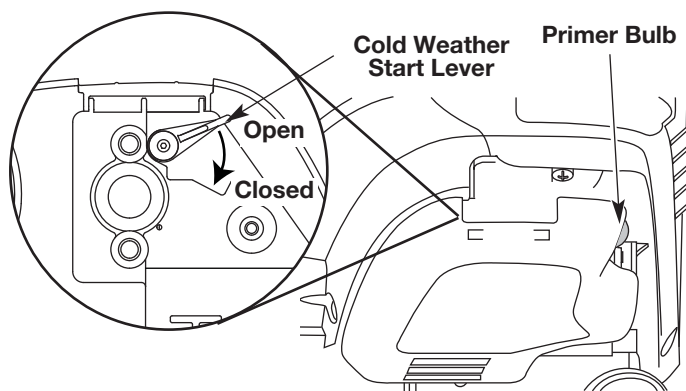

Fig. 7
3. Fully press and release the primer bulb 10 times, slowly. Some amount of **fuel should be visible in the primer bulb** and fuel lines (Fig. 7). If you can't see fuel in the bulb, press and release the bulb as many times as it takes before you can see fuel in it.
IF UNIT IS BELOW 40°F... Push the Cold Weather Start Lever (Fig. 7) down to the start/closed position and continue to step 4. **DO NOT** push this lever down if the unit temperature is above 40°F.